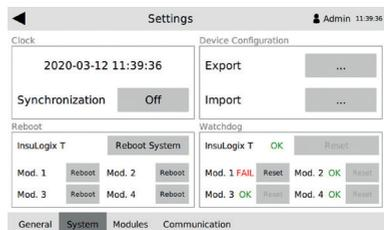

Figure 16: System settings screen
- ↳ The *System settings* screen opens (Figure 16).